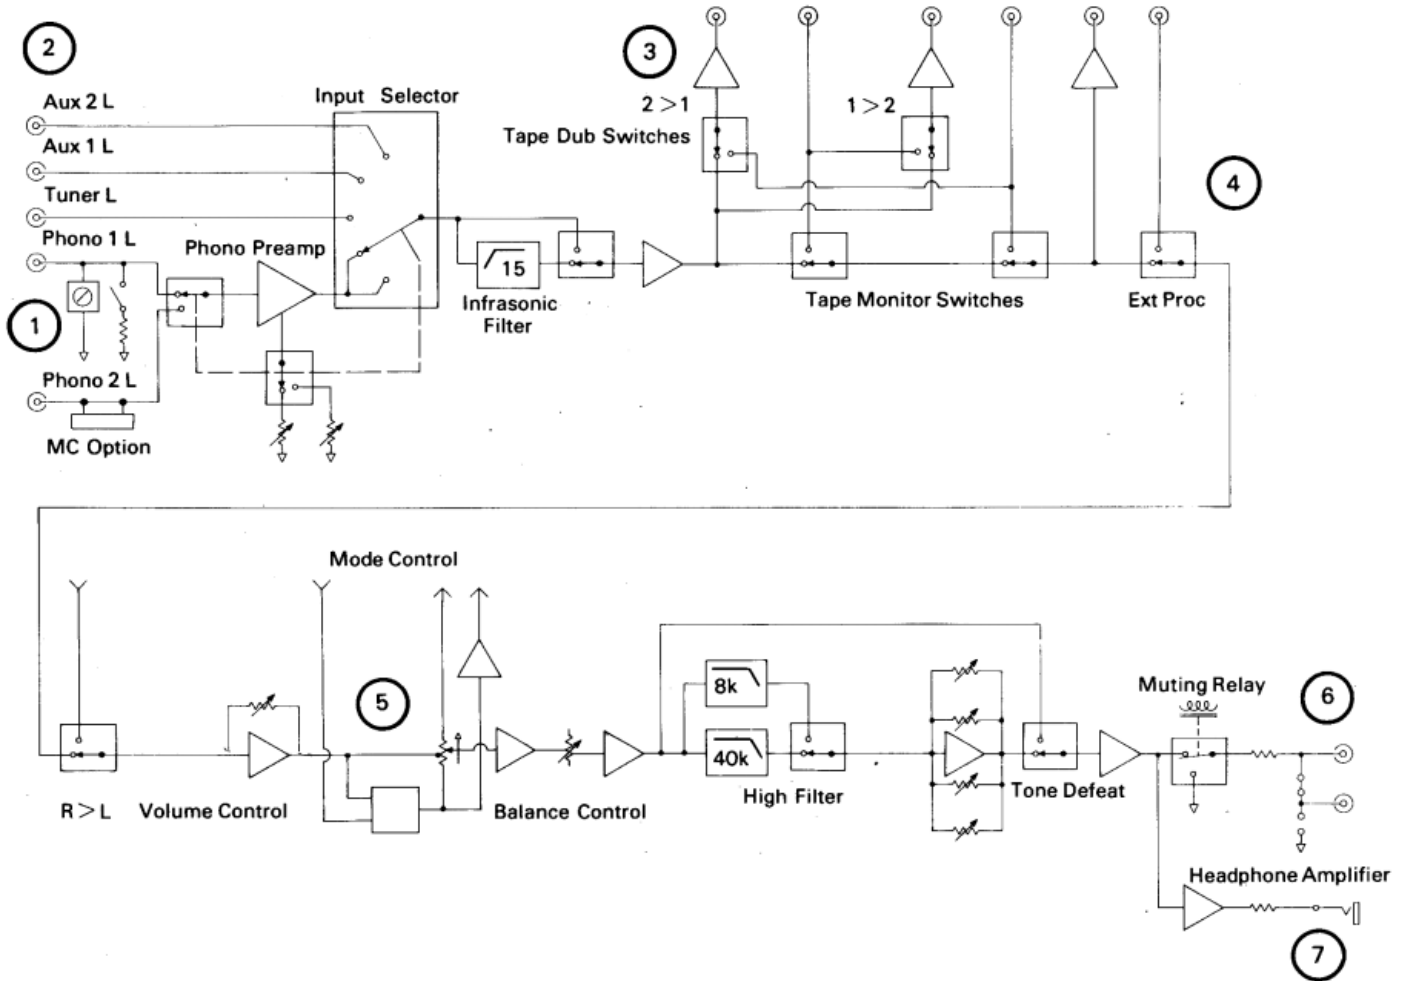

Fig. 5-1. Block Diagram.
- 5.1** Before disassembling the unit, it is advisable to check quickly all of the preamplifier's functions, both to make sure that the problem you wish to repair has been correctly identified and to isolate the section of the unit in which the problem occurs (see Fig. 5-1). In many cases you will find that, because of the number of controls, much of your initial troubleshooting can be done before the case is even removed. If you can identify a problem as belonging to the switchboard (areas in dashed lines on the schematic), you will not need to remove the unit's top cover; releasing the switchboard by its four mounting screws will suffice (see Section 6.4).
- 5.3** Use the Block Diagram, Fig. 5-1, to isolate the problem. Note, for example, that a suspected problem in the muting relay can be identified by examining the output of the headphone amplifier. Likewise, a problem suspected in the tone controls can be positively identified as such by activating Tone Defeat.
- 7.1 General.** Familiarize yourself with all of the front panel controls and with the Block Diagram (Fig. 5-1). Much can be learned very quickly from intelligent use of the controls, and a problem can often be more quickly localized in this way than by hunting for test points.